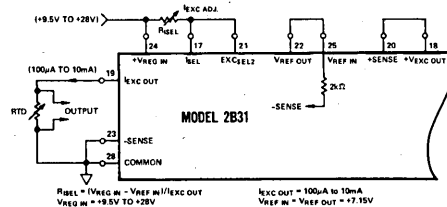

Figure 3. Constant Current Excitation Connections (VCOMPL = 0 to +5V)
**Current Excitation Programming:** The constant current excitation output can be adjusted between 100μA to 10mA by two methods with the 2B31. Figure 3 shows circuit configuration for a current output with the maximum voltage developed across the sensor (compliance voltage) constrained to +5V. The value of programming resistor RISEL may be calculated from the relationship: RISEL = (VREG IN - VREF IN)/IEXC OUT.